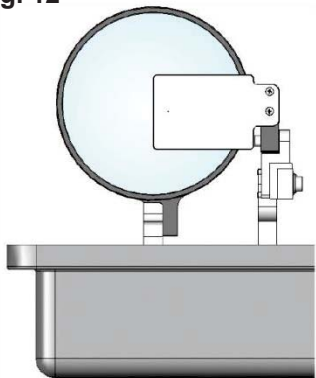

Fig. 12
2. Position MAJiK and tripod so the shooter sets up the SAT slightly left and behind the target card. This view should look like Fig. 12.
1. Align weapon with RWS optics using the bore scope per Army SOP. Completion of this process will ensure the RWS optics are aligned with the bore of the weapon. Position MAJiK and tripod so the shooter sets up the SAT slightly left and behind the target card. This view should look like Fig. 12.